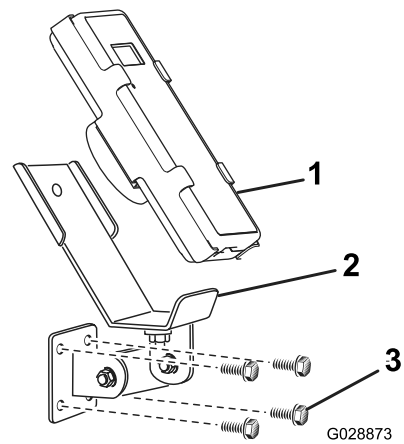
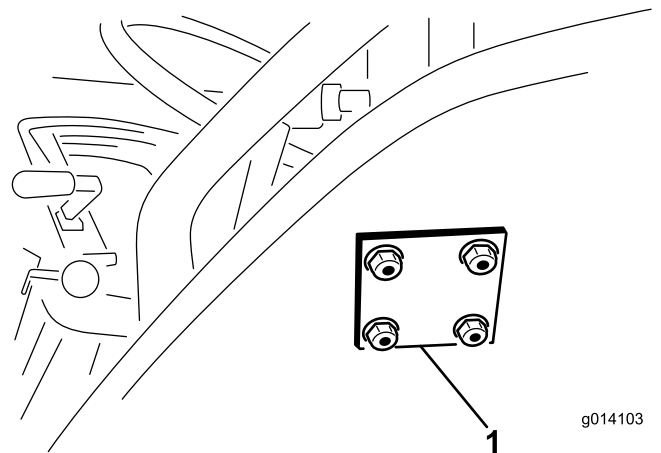

Figure 10
Figure 11
3. Attach the mounting bracket and backing plate with 4 flange head bolts (5/16 x 1-1/2 inches) and flange locknuts (Figure 10 and Figure 11).